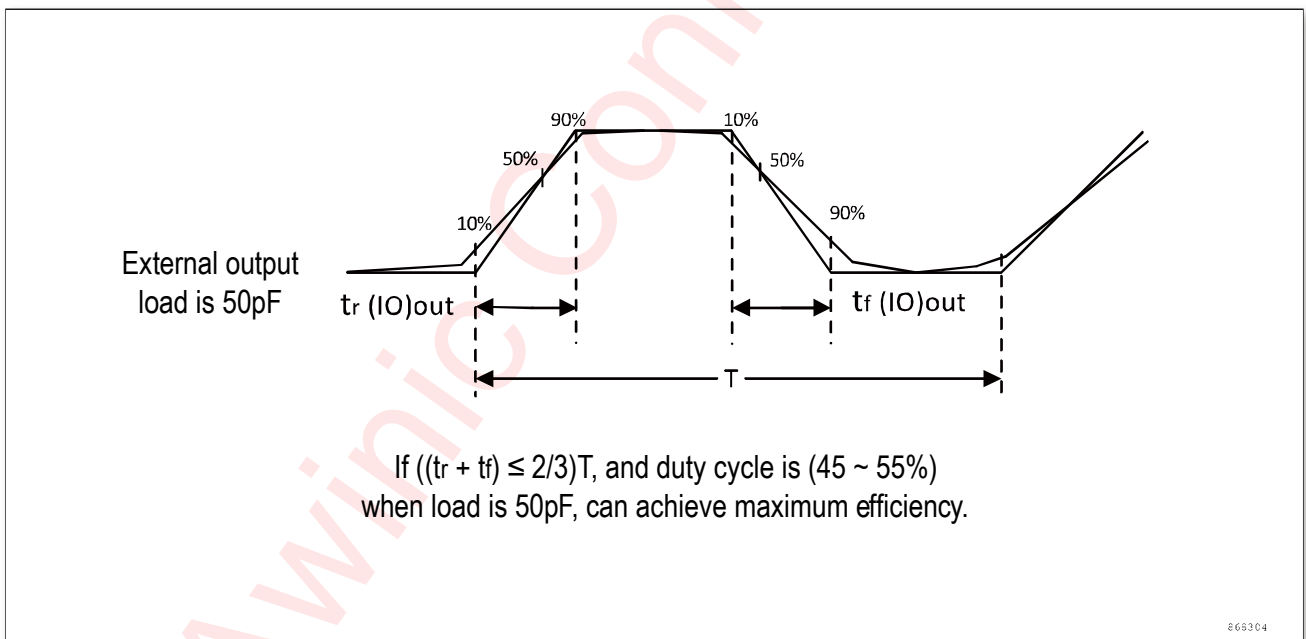

Figure 9 I/O AC characteristics
2. The maximum frequency is defined in figure 9.